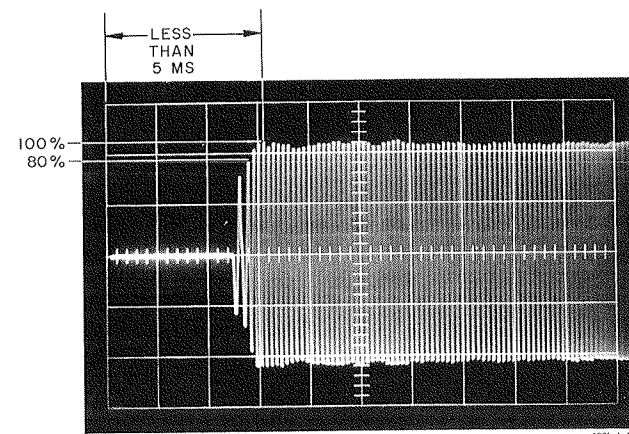

Figure 5-3. Start Time Characteristics (1ms/cm)
b. Program forward command (P1-13) alternately on for 8-ms and off for 10-ms. Verify that forward start characteristic displayed on oscilloscope resembles trace in figure 5-3 and that start time is less than 5 ms.